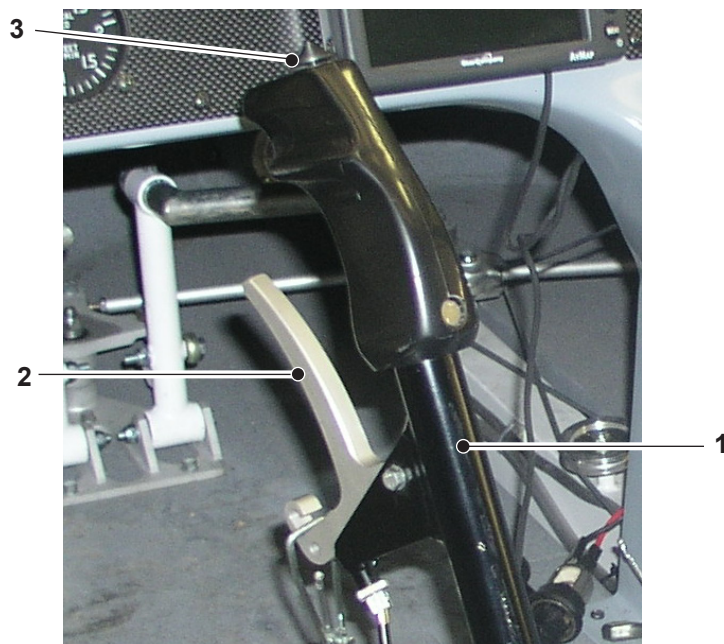

Fig.15 - Rotor controls
2.6.h Rotor controls (Fig. 15)